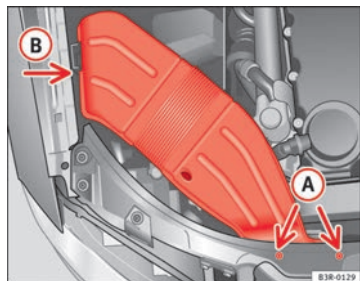

Fig. 187 Air duct on right side of vehicle
- Unscrew bolts (A) ⇒ fig. 187.
- Detach air duct from guide (B) and take it out.